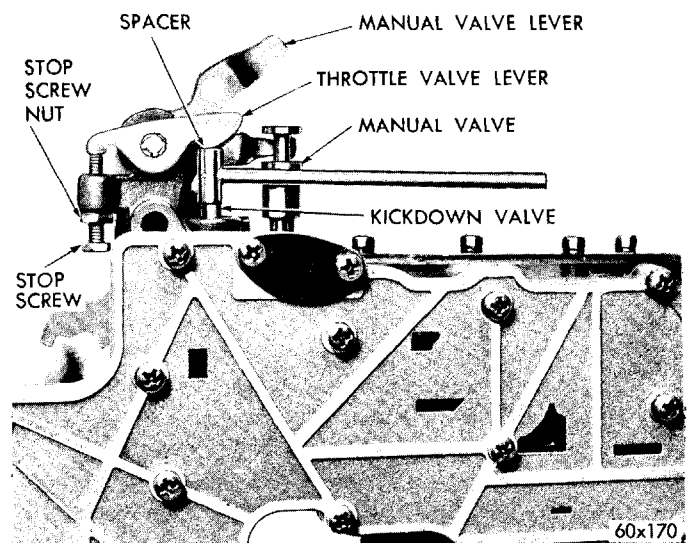

Fig. 19—Throttle Pressure Adjustment — Valve Bodies and Transfer Plate Assemblies Removed to Show Operation
- (1) Shut off the engine.
- (2) Drain transmission and remove oil pan.
- (3) Loosen the throttle valve lever stop screw nut and back off the screw approximately 5 turns.
- (4) It will be necessary to fabricate a tool to be used as a gauge to properly reset throttle valve lever stop screw. Use a piece of drill rod or other similar stock approximately $\frac{5}{16}$ or $\frac{3}{8}$ inch in diameter. Cut it off very accurately to a length of .646 inch. Insert this gauge between the throttle valve lever tang and the kickdown valve, as shown in Figure 19.
- (5) Push in on the kickdown valve, compressing it against its spring, until it is completely bottomed inside the valve body.
- (6) While force is being exerted to hold valve in bottomed position, **tighten the throttle lever screw finger tight (do not use wrench) to remove all free play of the throttle valve lever.**